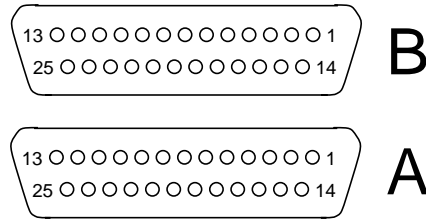

FIGURE 1-2 DB-25 Serial Connectors
- FIGURE 1-2 DB-25 Serial Connectors 1-3